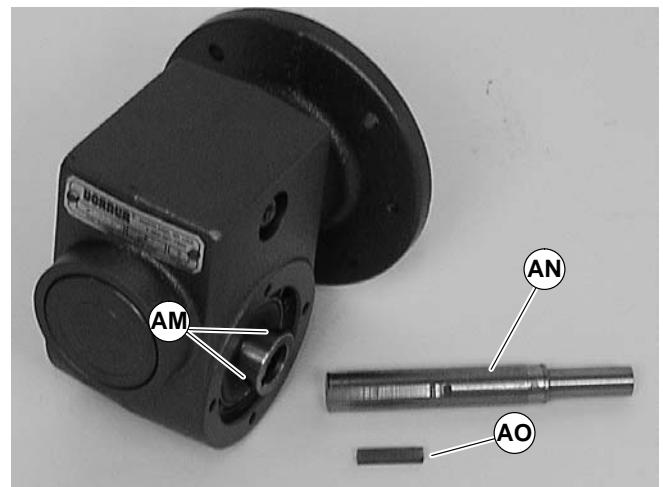

Figure 25
7. Remove two (2) screws (AJ) and detach output shaft cover (AK).
8. Remove gear reducer output shaft key (AL).
9. Loosen six (6) set screws (AM of Figure 25). Remove drive shaft (AN) and key (AO).
11. Replace the original shaft components into new gear reducer (see Figure 25).